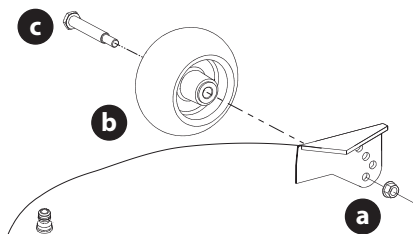

Figure 12
- Remove the lock nut (a), gauge wheel (b) and shoulder screw (c) from the deck (Figure 12).
- Insert the shoulder screw (c) into one of four index holes on the deck wheel bracket. Allow a 1/4-1/2 inch (6.35-12.7 mm) clearance between the ground and gauge wheel (Figure 12).